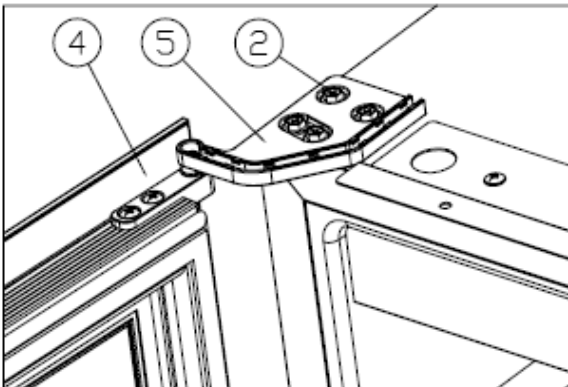

Figure 6
- ✧ Turn the door④ 180 degrees, and insert the right lower hinge, screw tight M5*16 screws②. [Figure 6] Door reversing is finished.